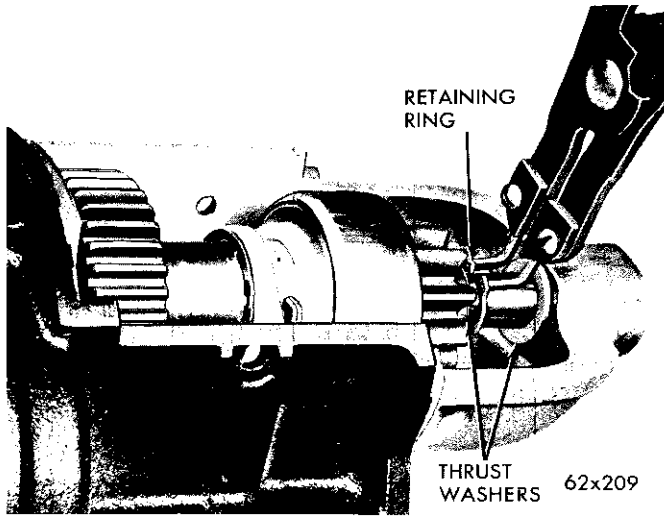

Fig. 9—Removing or Installing the Pinion Shaft Retainer Ring
(18) Release the retainer ring at the front of the pinion shaft (Fig. 9).